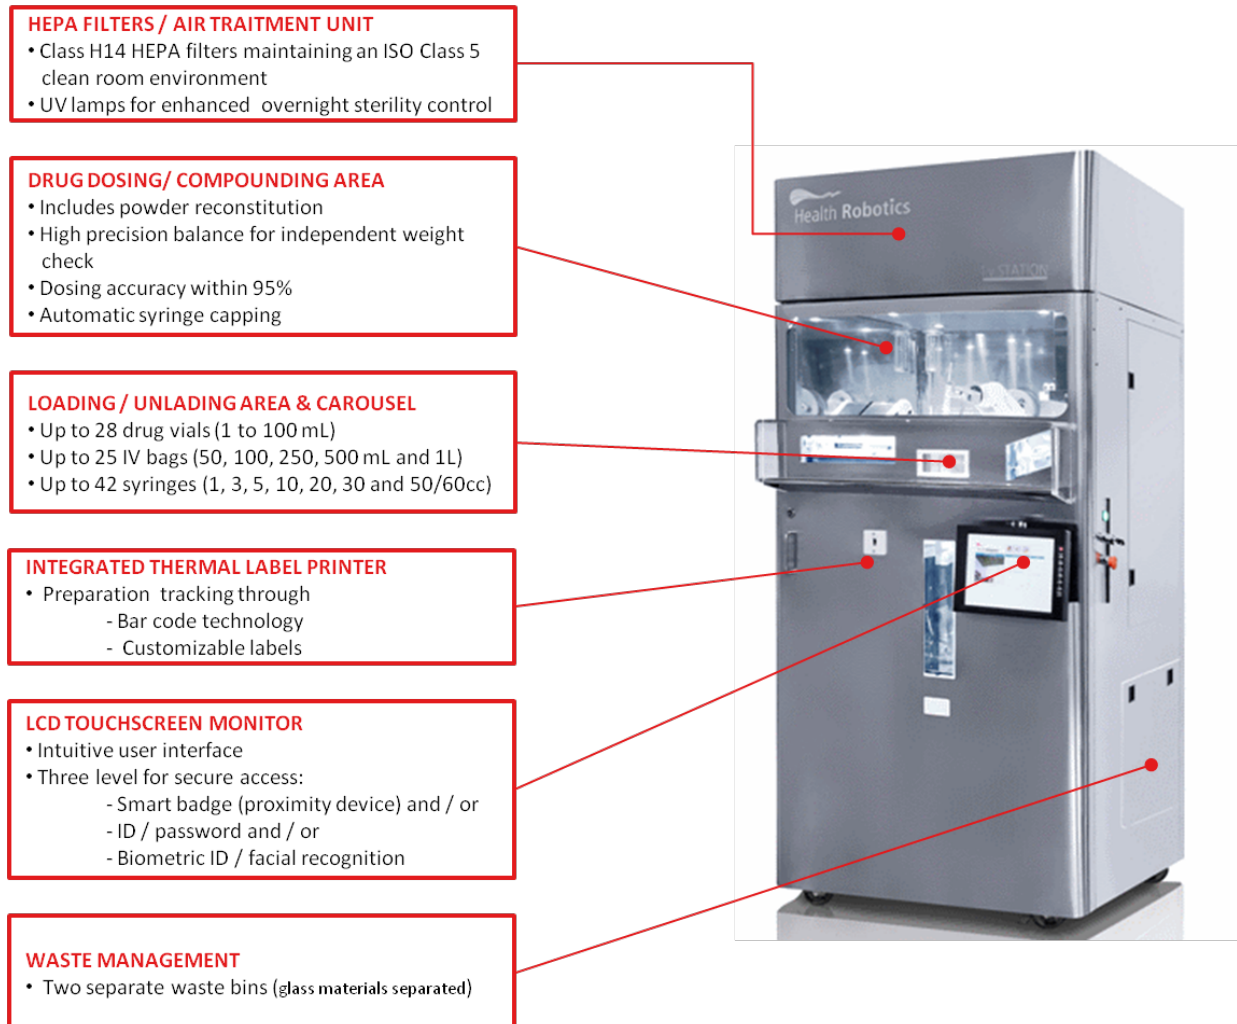

Figure 1 - i.v.STATION™ components
i.v.STATION™ consists of the following main components (Figure 1):